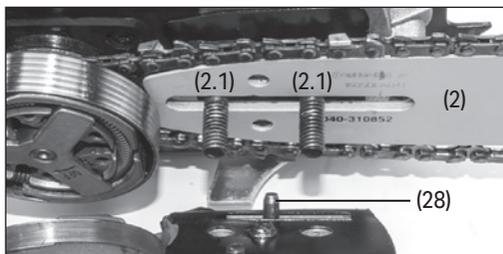

Fig.5
4. Install the guide bar (2) and slide fully towards the sprocket (26). Loosely wrap the chain around the guide bar ensuring the chain sits within the groove around the edge of the guide bar. (Fig.5).
5. Position the guide bar (2) on to the bar locking threads (2.1), then locate the chain tension adjuster pin (28) into the aperture on the guide bar. To ease fitting the tension pin location may need pre-adjusting prior to fitting.